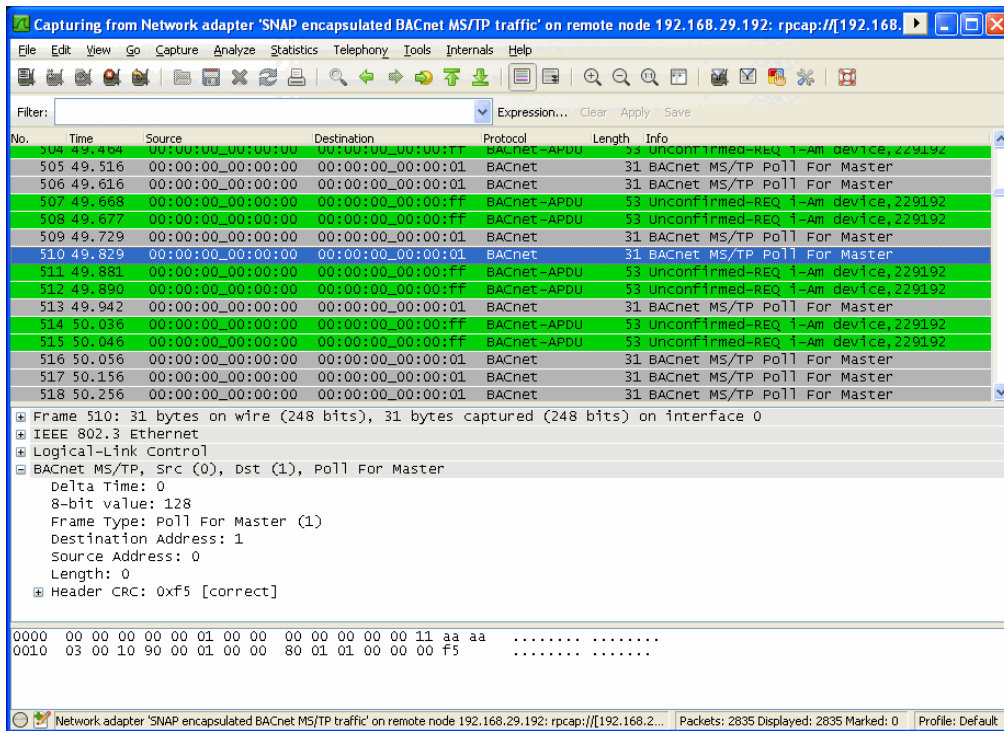

Figure 36: Example MS/TP remote capture in progress.
3. Wireshark will attempt to establish a connection to the device and, if successful, start displaying packets. An example capture is shown in Figure 36.